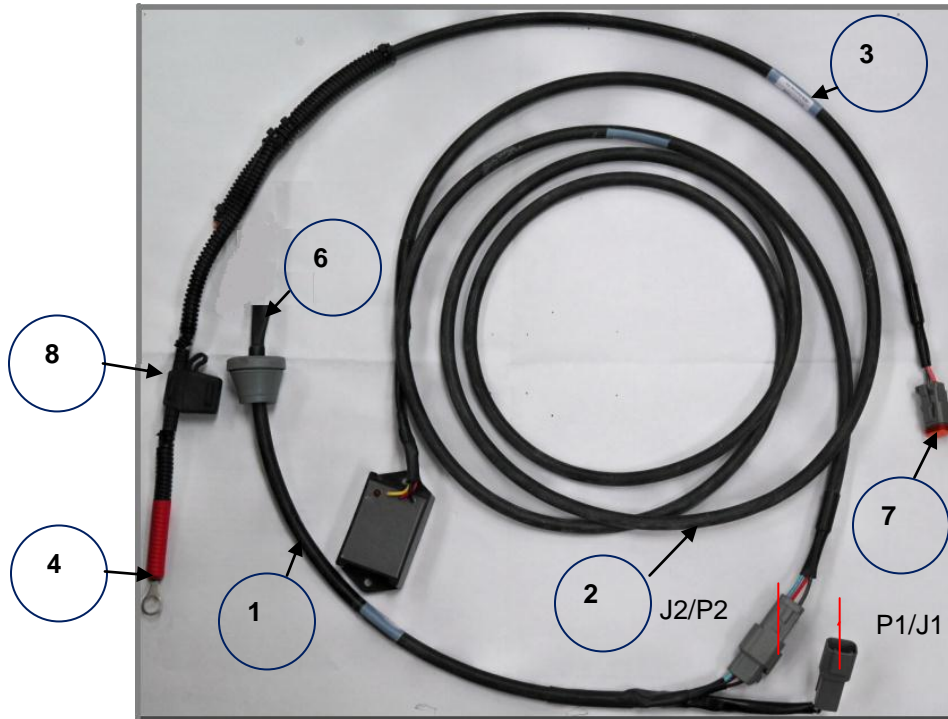

Figure 5.- ST-550 Field Cables with a Vibration Sensor
3. Run the battery cable back to the ST-550 and connect it to the pigtail (supplied by OEM, See Figure 5).
3. Run the Vibration Sensor cable back to the ST-550, and plug the supplied connector into the harness of the ST-550. (See Item 2 in Figure 5).